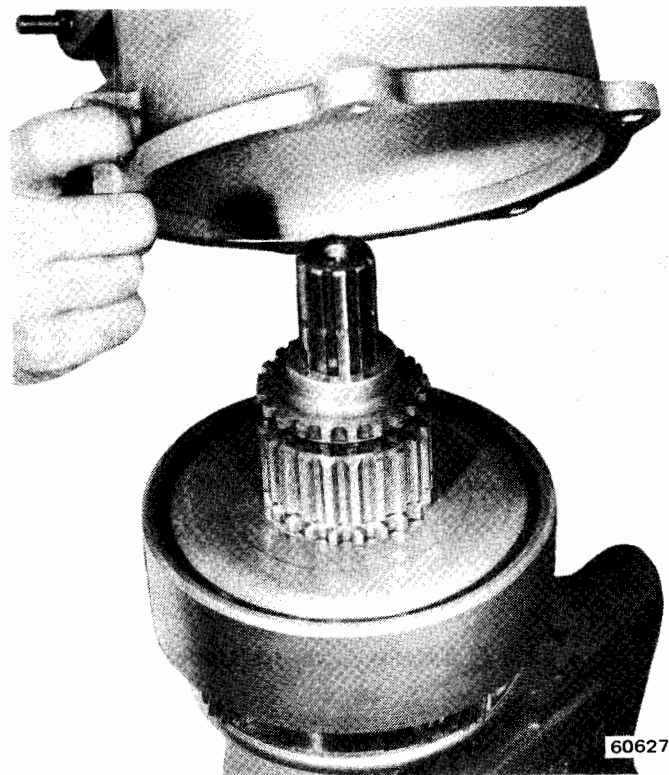

Fig. 8-26 Removing-Installing Housing
- (6) Lift reduction unit housing off gear train (fig. 8-26).
(26) Slide assembled parts toward edge of workbench just far enough to expose bore in shift collar hub. Support assembly with one hand and insert main shaft in bore of shift collar hub with other hand. Be sure main shaft and sun gear are fully seated. Install main shaft and sun gear from open end of ring gear.
(27) Hold assembled parts firmly together, lift assembly and place assembly on socket (in vise) used to support reduction unit during disassembly.
(28) Install needle bearing and direct drive sleeve on main shaft.
(29) Align splines on assembled parts and install reduction housing (fig. 8-26). Be sure housing is seated firmly against direct drive sleeve.
(30) Install rear spacer and snap ring. The snap ring is select-fit and is available in thickness ranges of 0.089 to 0.091 inch, 0.092 to 0.094 inch, 0.095 to 0.097 inch, 0.099 to 0.101 inch, and 0.103 to 0.105 inch. Install thickest ring possible to provide 0.004-to-0.009 inch spacer clearance. Be sure snap ring fits securely in groove.
(31) Install power takeoff cover and gasket. Tighten cover attaching screws to 20 foot-pounds torque.
(32) Remove unit from support socket and install pinion cage.
(33) Remove socket from vise.